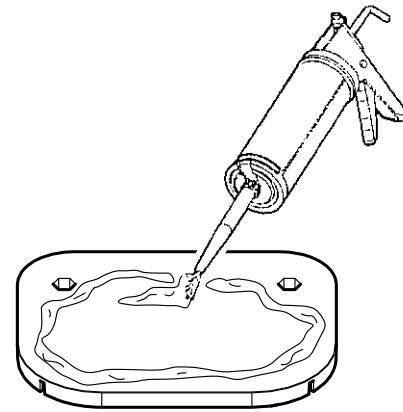

Fig. 9
3. Apply some sealant like SIKAFLEX®252 on the plates (**Fig. 9**).